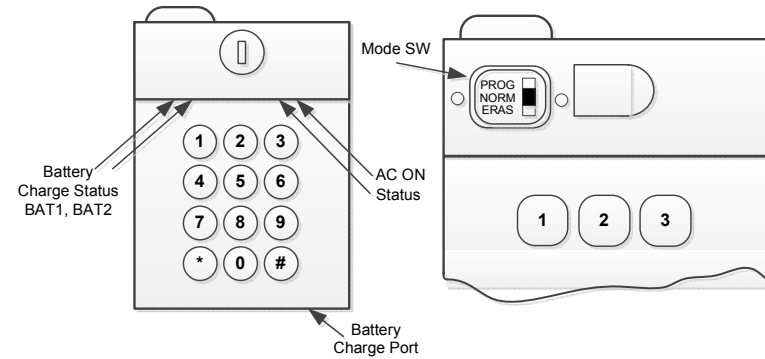

Fig.2 Indicators
- f. When the batteries are depleted to low battery level (beep alarm is audible), or the RF remote control turns to be unstable. The batteries are needed to charge. They can be charged from the charge port on the bottom (see Fig 2.) by a 12V - 24V DC source. The potential DC charge sources could be: 12-24V AC/DC adaptor, 12/24V solar panel, 12V car battery, etc.
See Fig.2.